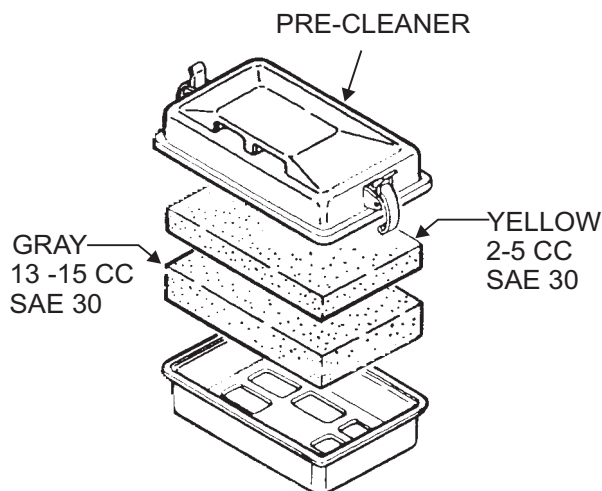

Figure 13. Pre-Cleaner
- Remove the element from the pre-cleaner (Figure 13) at the top of the crankcase (body side) and clean it with cleaning oil (kerosene).